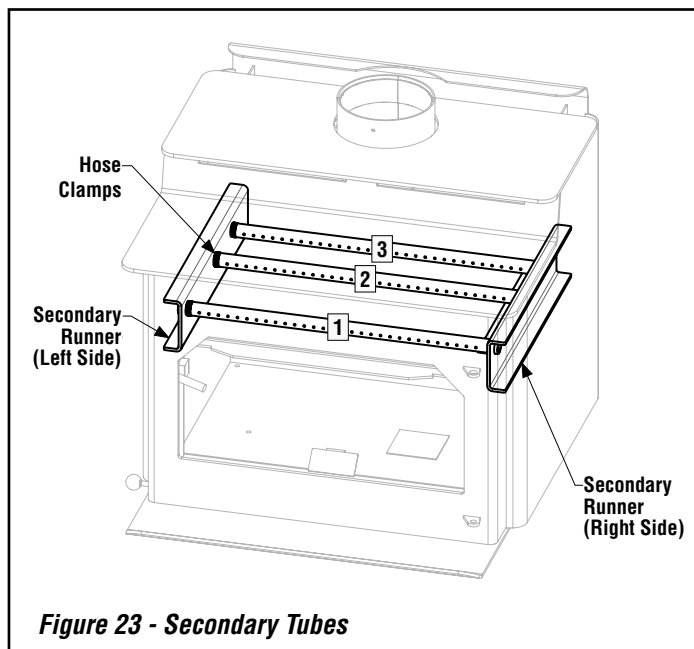

Figure 23 - Secondary Tubes
Step 2. Using a small flat blade screwdriver, loosen the hose clamps holding the secondary tubes in place. Once the hose clamps are loose, it can be moved on the secondary tube approximately 1-1/2" toward the center (see *Figure 23*).
Step 4. Raise the loose side of the secondary tube assembly above the secondary runners and then slide the secondary tube assembly out of the secondary runner. The assembly can then be carefully pulled from inside the firebox (see *Figures 23 and 24*).